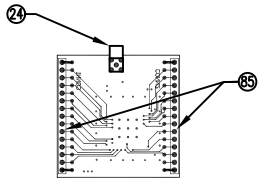

FIGURE 01B
5. TURN OVER AND PLACE PCA ONTO ANTI-STATIC PAD. SEE FIGURE 01B.